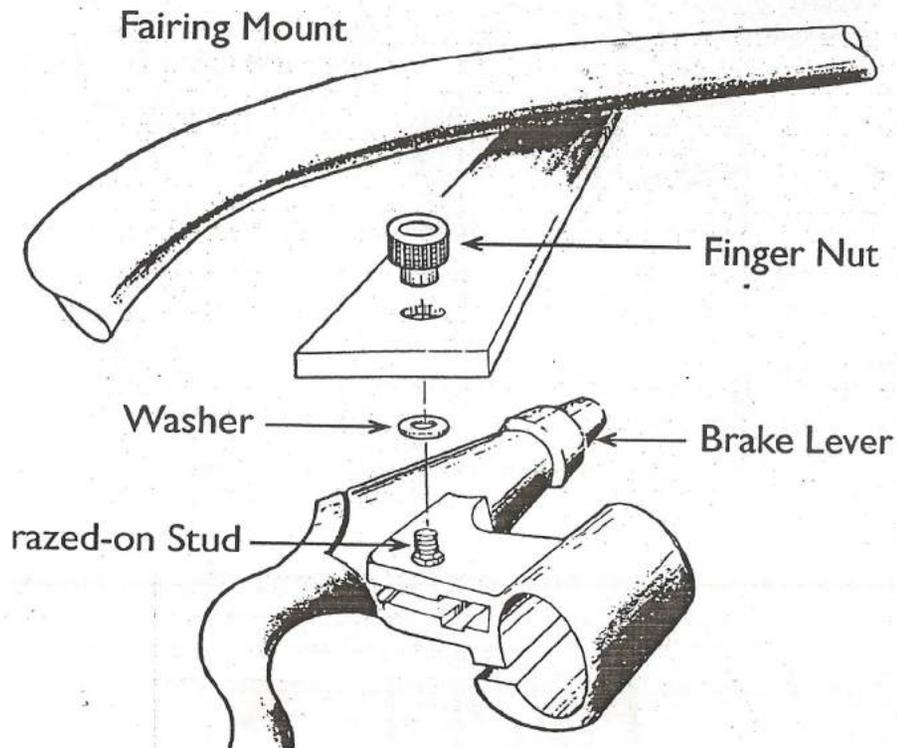

Fig. 4-2
- C) Remove existing pivot bolt from the brake levers. Using the included Acorn nut, install the new lever pivot bolts with brazed-on stud. (See Fig. 4-2). Next, space the brake levers so the studs match the fairing mount tabs.
- D) Bolt the fairing mount onto the brake levers using the included washers and nuts. (See Fig. 4-2).